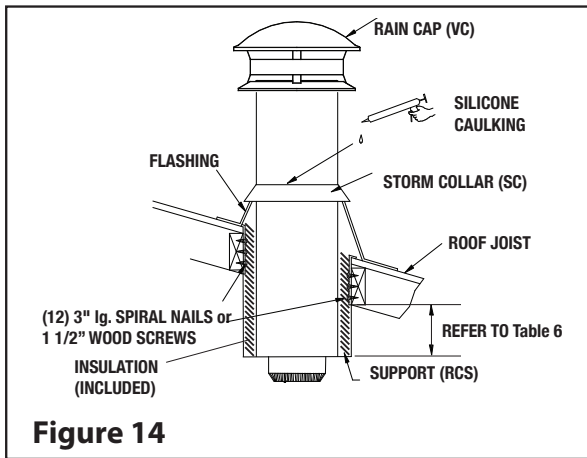

Figure 14
Step 2: From above, place the support in the opening. Lower it to proper height (see Figure 14).
Step 3: Using a level, make sure the support is vertical. If the support extends above the roof, cut it flush with the top of the roof. Nail the support to the framed opening using (12)-3" spiral nails or #8 x 1 1/2" wood screws (see Figure 14).